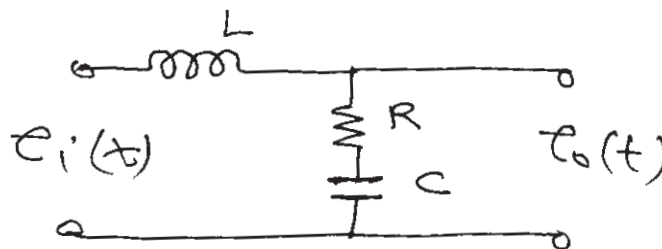

Fig 9b.
b) Consider the electrical circuit as shown in fig 9b. Obtain the state model of the system with zero initial condition. [10]